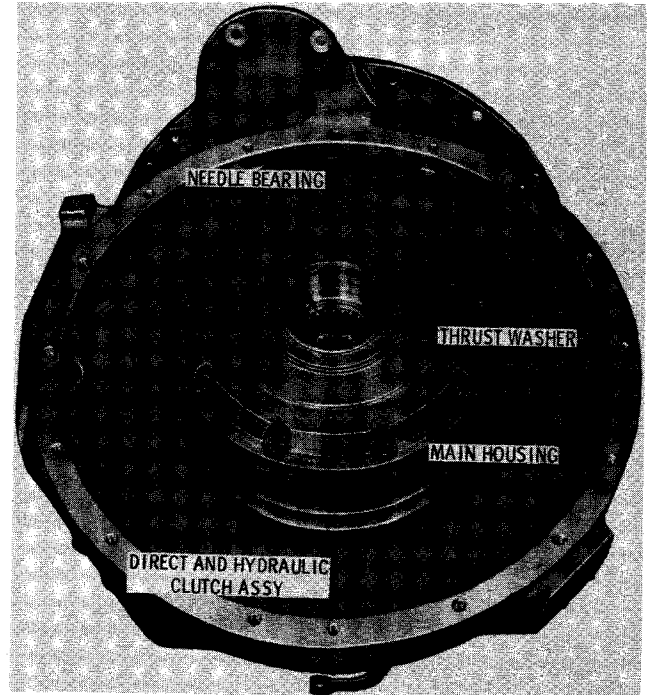

Fig. 5-25. Removing (or installing) direct and ^{S2025}
(2) Remove the clutch assembly from the main housing (fig. 5-25). Remove the thrust washer and needle bearing.